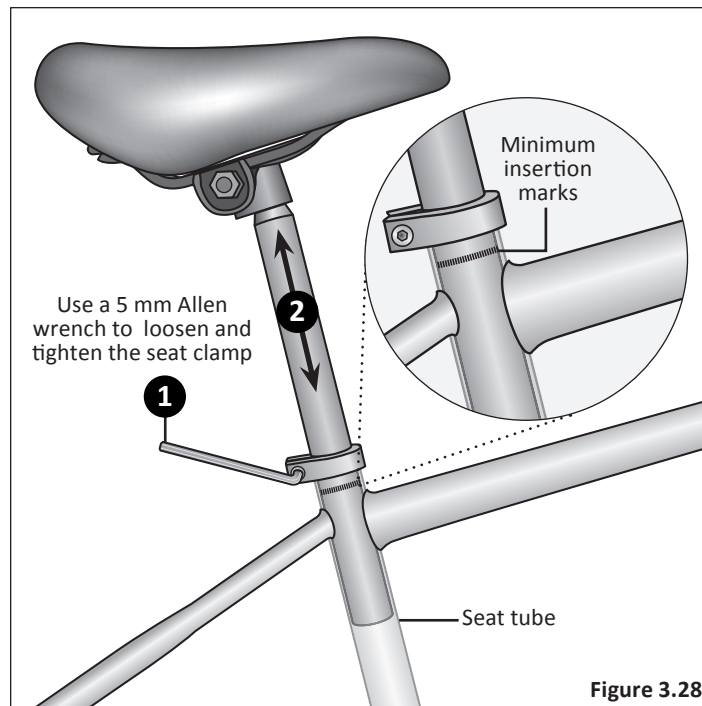

Figure 3.28
- 1 Using a 5 mm Allen wrench, loosen the seat clamp bolt and insert the seat post into the seat tube. **Figure 3.28**